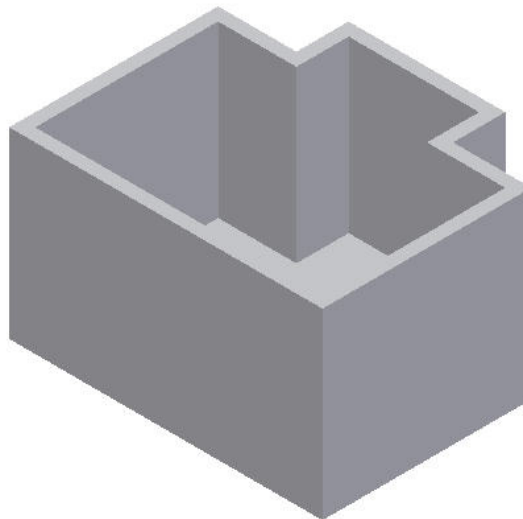

Figure 50
- Click **OK** or press **Enter** on the keyboard and the part will appear with walls rather than a solid, with the top face being open as shown in Figure 50.